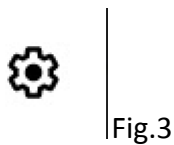

Fig.3
2. Swipe down 2X from the top of the screen. On the extended Quick Access Panel (Fig.3). Selecting the pictogram opens the settings.